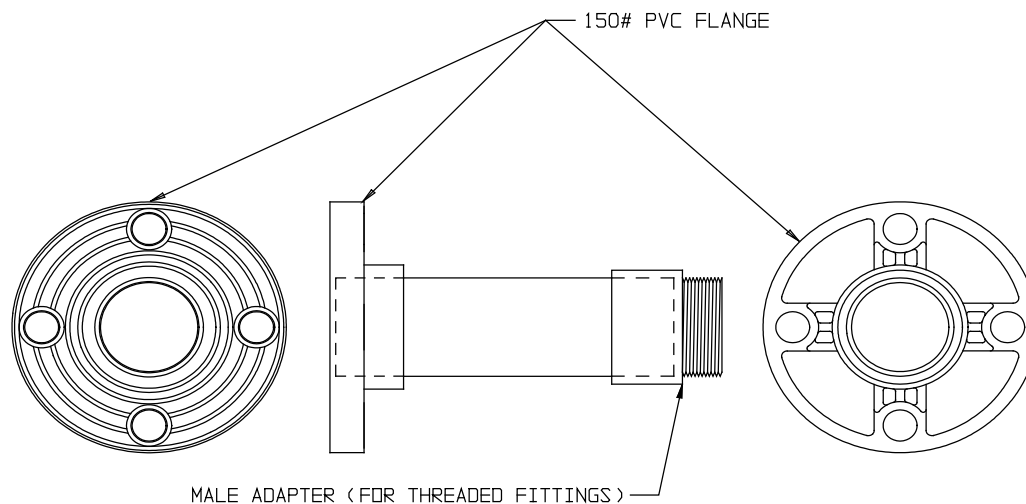

Figure 7.11
7.12.1 Standard flange adapters are constructed from PVC or CPVC and may be purchased for solvent weld socket fittings or threaded fittings. Flange adapters for threaded fittings are provided with loose male adapter to allow the customer to adjust adapter length and flange position to match the piping at the installation. Refer to Figure 7.11 for an illustration of a flange adapter.